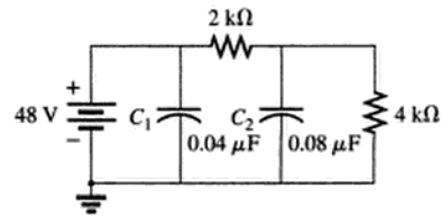

FIG. 10.123
52. For the configuration in Fig. 10.123, determine the voltage across each capacitor and the charge on each capacitor.